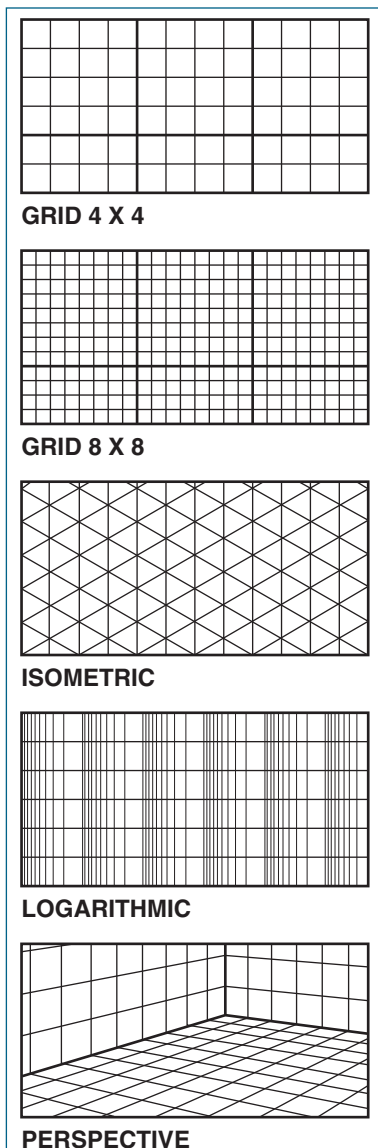

Figure 2-8 Examples of grid paper.
- **Grid paper** is printed with various patterns. The grid paper used for engineering drawing is usually the inch divided into 10 parts or 2 millimeters for metric drawings. Architects use the 1/8" or 1/4" graph paper (Figure 2-8).